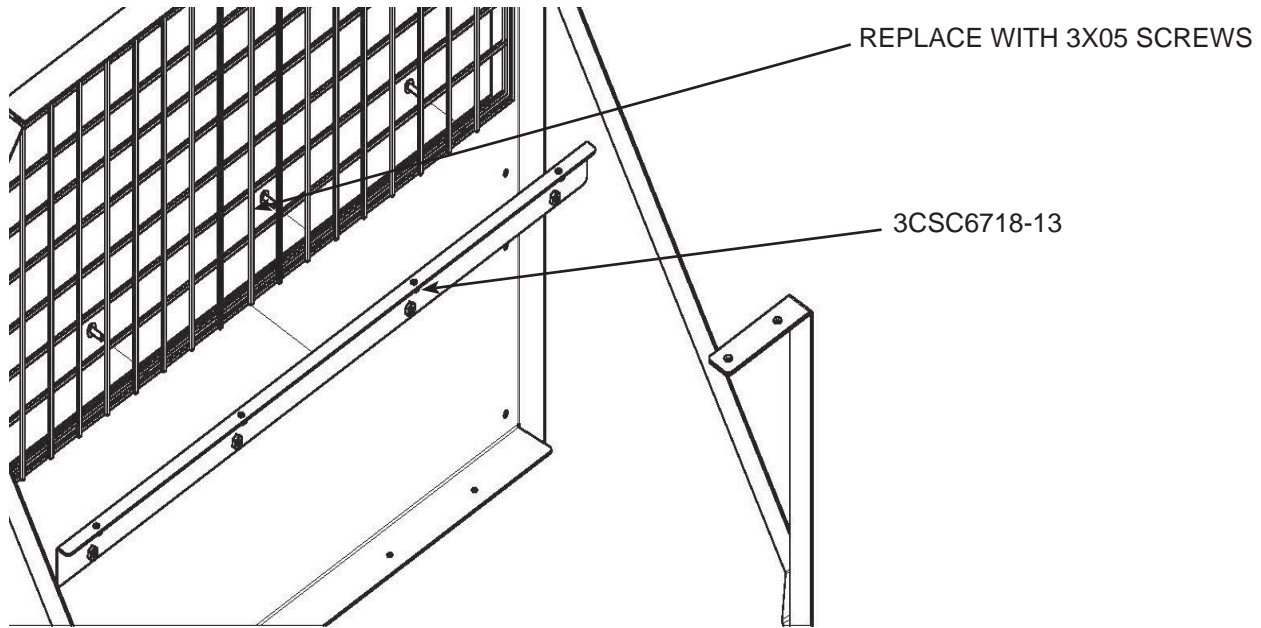

Fig. 2
C. Remove 4 lower fasteners on barrier window. Place the barrier support bracket 3CSC6718-13 into place and fasten to barrier using longer 1/4-20 x 3/4 screws (3X05) provided with kit. See Fig 2.